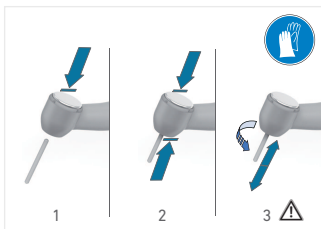

FIG. 3
1. Disconnect the device from the coupling and remove the bur (FIG. 3, step 1.).